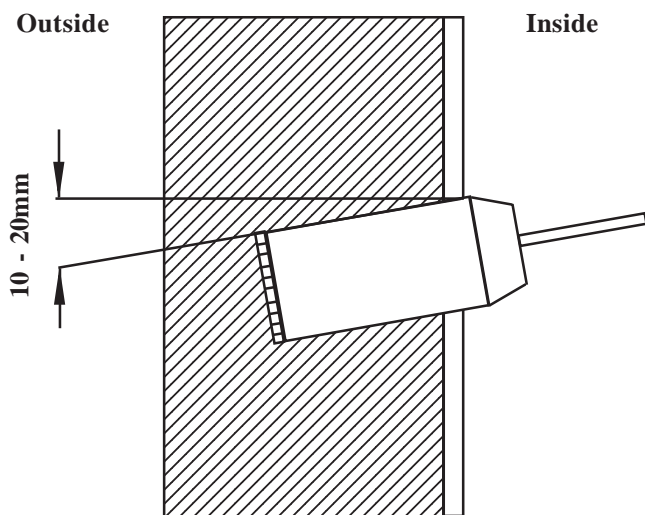

Fig. 4
- 4.3 Referring to Fig. 4, drill or cut a 120mm diameter hole sloping down towards the outside, and the 3 x 8mm diameter wall fixing holes.